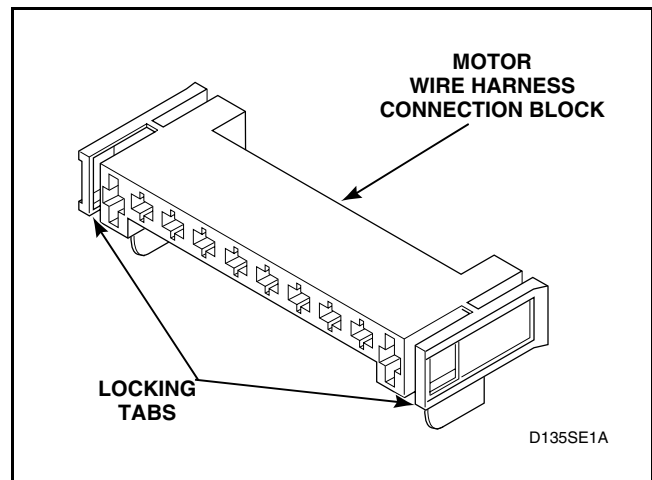

Figure 48
- g. Disengage motor wire harness connection block from motor switch by pressing in on the movable locking tabs (located on each end of the connection block) and pulling away from motor. Refer to *Figure 48*.
- (1) Disengage motor wire harness connection block from the motor by pressing in on the movable locking tabs (located on each side of the connection block) and pulling away from motor. Refer to *Figure 48*.